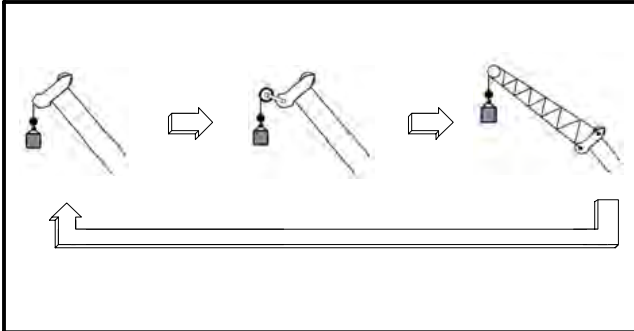

Figure 1-82
- b. Scroll through the available lifting points until the desired lifting point, for the winch selected, is displayed. Refer to Figure 1-82.